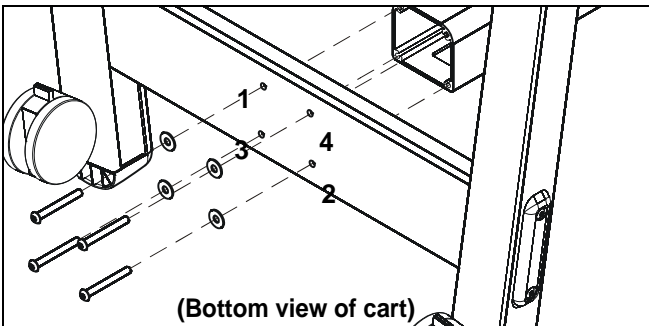

Figure 2
NOTE: Insert and turn screws in order shown (1, 2, 3, 4) in Figure 2.
2. Attach center post (C or D) to leg assembly using four 5/16-18 x 2-3/4" button head cap screws (M) and four 5/16" washers (P). (See Figures 2 and 3)